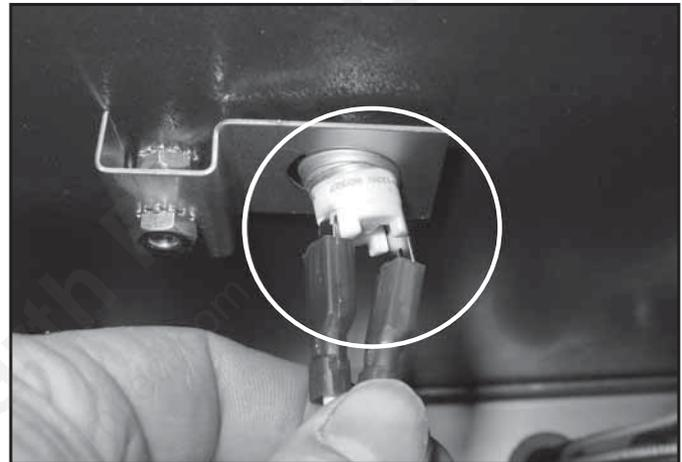

Figure 11
4. Connect the electrical connector to the snap disc. Figure 11.